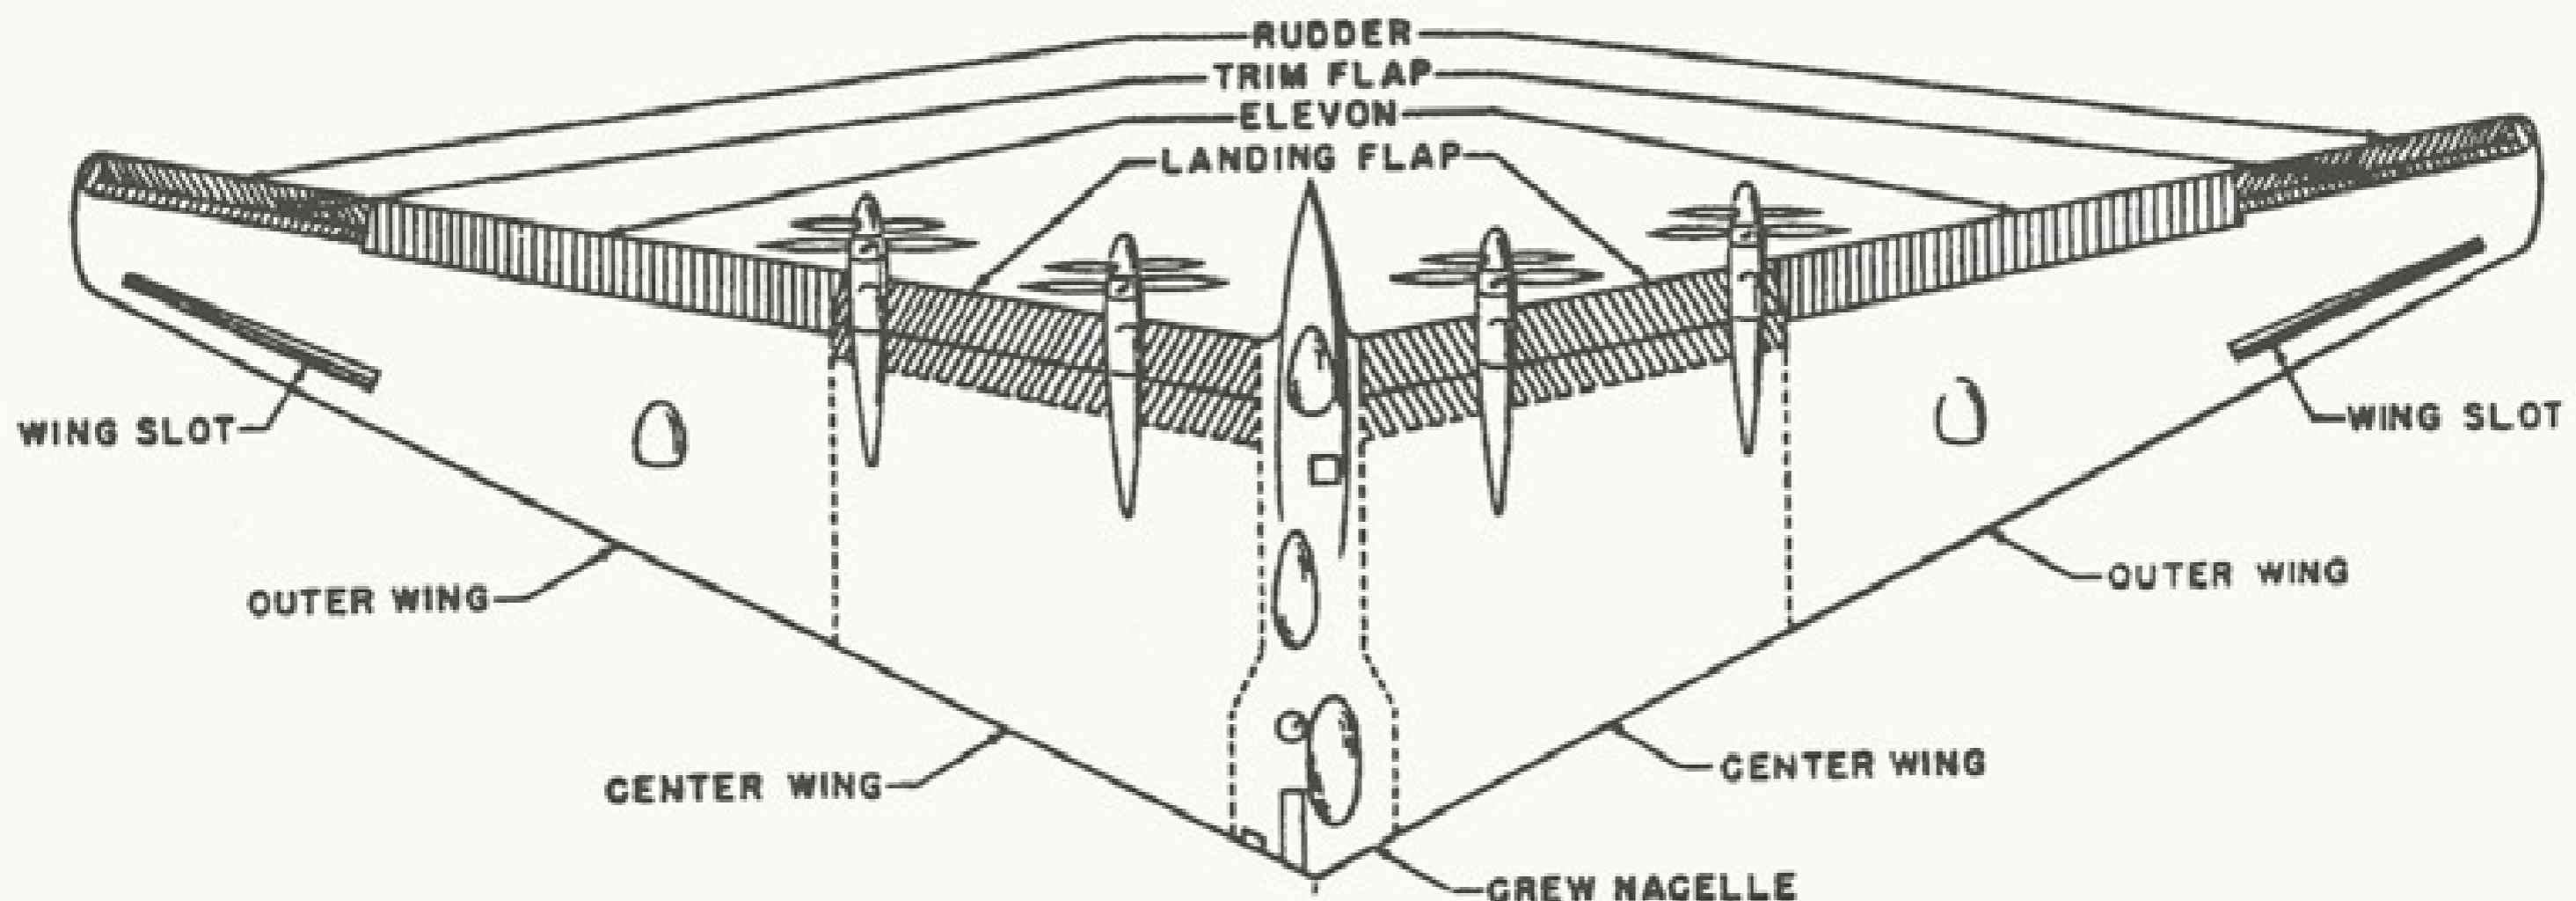
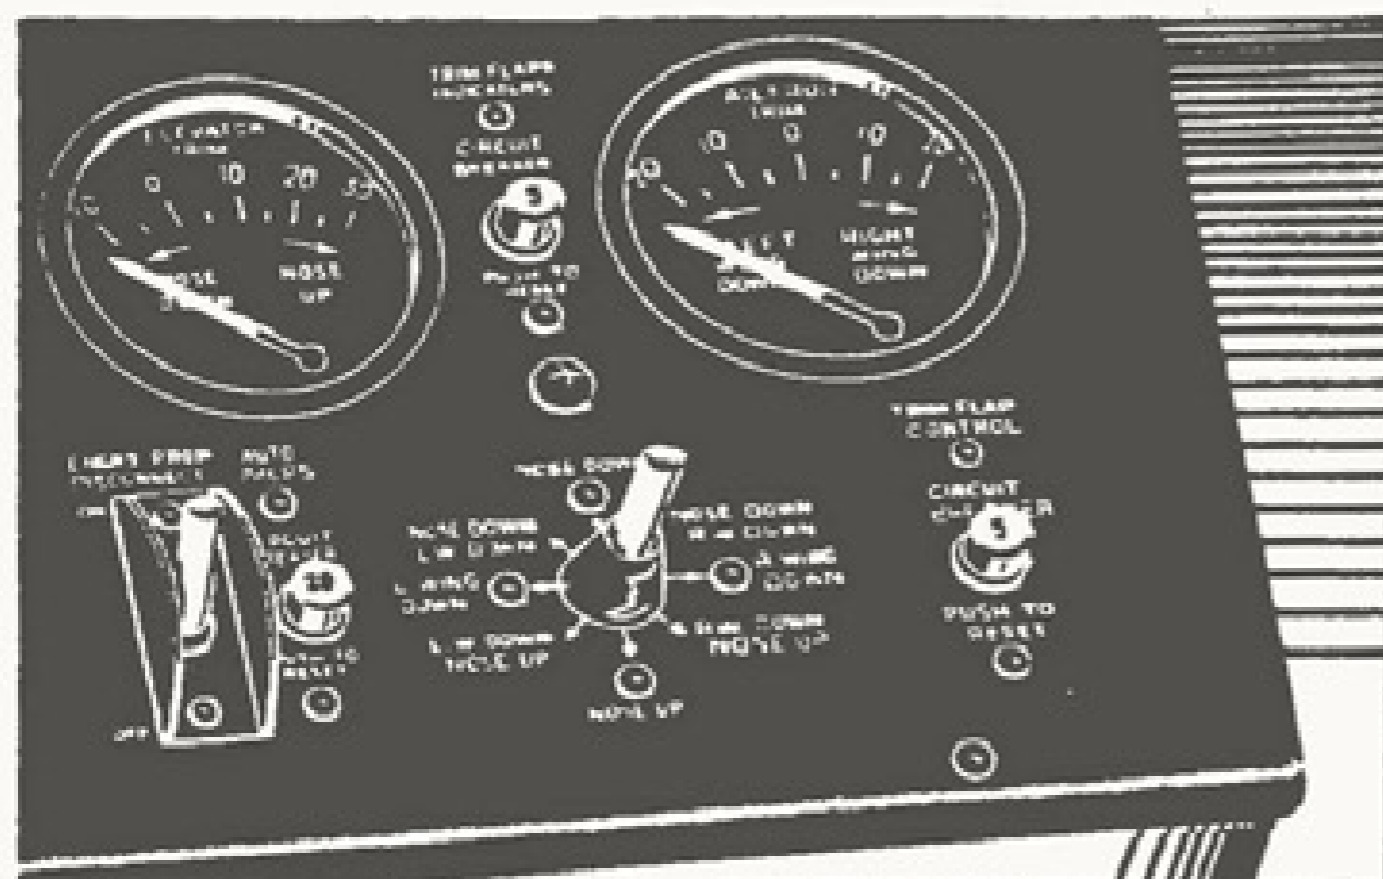

Figure 3. Airplane Plan View
Figure 5. Trim Flap Controls
2. FLIGHT CONTROLS.- Conventional control wheels and columns are provided for the pilot and copilot. The rudder pedals are somewhat unconventional in operation inasmuch as they operate independently of one another. Due to the elevons and rudders being power operated, only friction loads are placed on the control systems, therefore, mechanical loads have been imposed on the control systems to lend "feel" to elevon and rudder operation. A control force bellows is connected to the pilot's control column, and spring assemblies are attached to the control wheel mechanisms and to the copilot's rudder pedals to add "feel" to these controls. The spring assemblies, attached to the rudder pedals, are used to preload the pedals and are also connected to the rudder trim control for rudder trim. See figure 3. for identification of the control surfaces.
3. ELEVONS. (See figure 3.)- These surfaces are normally actuated by hydraulic pressure, but, in case of a hydraulic failure they may be operated electrically. The elevons function as both elevators and ailerons. Fore
8. TRIM FLAPS. (See figure 3.)- The trim flaps are used for either aileron or elevator trim. The trim flaps are electrically actuated and controlled by an eight-position switch located on the pedestal between the pilot and copilot. (See figure 5.) Two trim flap position indicators are installed on the pedestal immediately forward of the control switch. One indicator shows the amount of aileron
9. LANDING FLAPS. (See figure 3.)- Electrically operated landing flaps are used on this airplane. A control switch is located on the pedestal within reach of either the pilot or copilot. The switch has "UP," "OFF," and "DOWN" positions. By moving the switch to the "OFF" position the landing flaps may be held in any desired position. The landing flaps are used for landing only. They lower the stall speed only slightly, but they will appreciably steepen the glide path of the airplane and decrease the angle of attack, thus allowing improved visibility. The landing flaps may be lowered to 50° , however, they should not be lowered over 30° on this airplane.
11. WING SLOT DOORS. (See figure 3.)- An upper and lower door control the flow of air through the slot in each outer wing. The doors are electrically controlled and hydraulically actuated. A three-position switch, located on the control pedestal, allows the pilot manual or automatic control of the doors. (See 17, figure 7). Automatic control of the doors is accomplished through the use of pressure switches which measure the air pressures on the upper and lower wing surfaces, opening or closing the doors at pre-determined lift coefficients. Since it is desirable to have the slot doors open during take-off and landing, a landing gear operated switch has been installed which opens the doors when the landing gear is down. Indicator lights for the "DOORS OPEN" position are located on the instrument panel. In case of an electrical or hydraulic failure, the doors will assume the full open position. If one set of doors should be held open or closed due to a mechanical failure, the pilot may place the doors in the other wing in the same position by placing the control switch in the "OPEN" or "CLOSED" position as necessary.